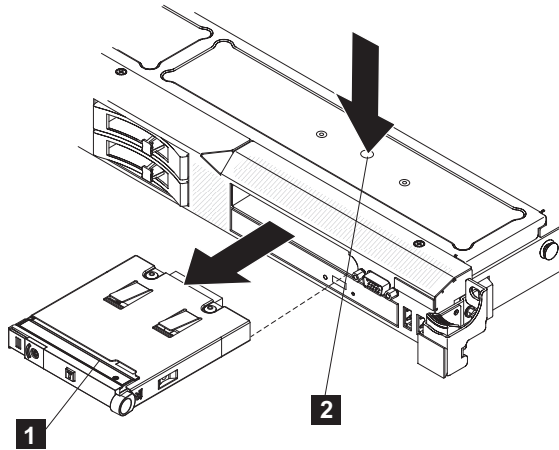

Figure 255. Using the release tab to remove the SAN Volume Controller 2145-CG8 or 2145-CF8 operator-information panel
7. Use an object to push down on the release tab (**2** in Figure 255).